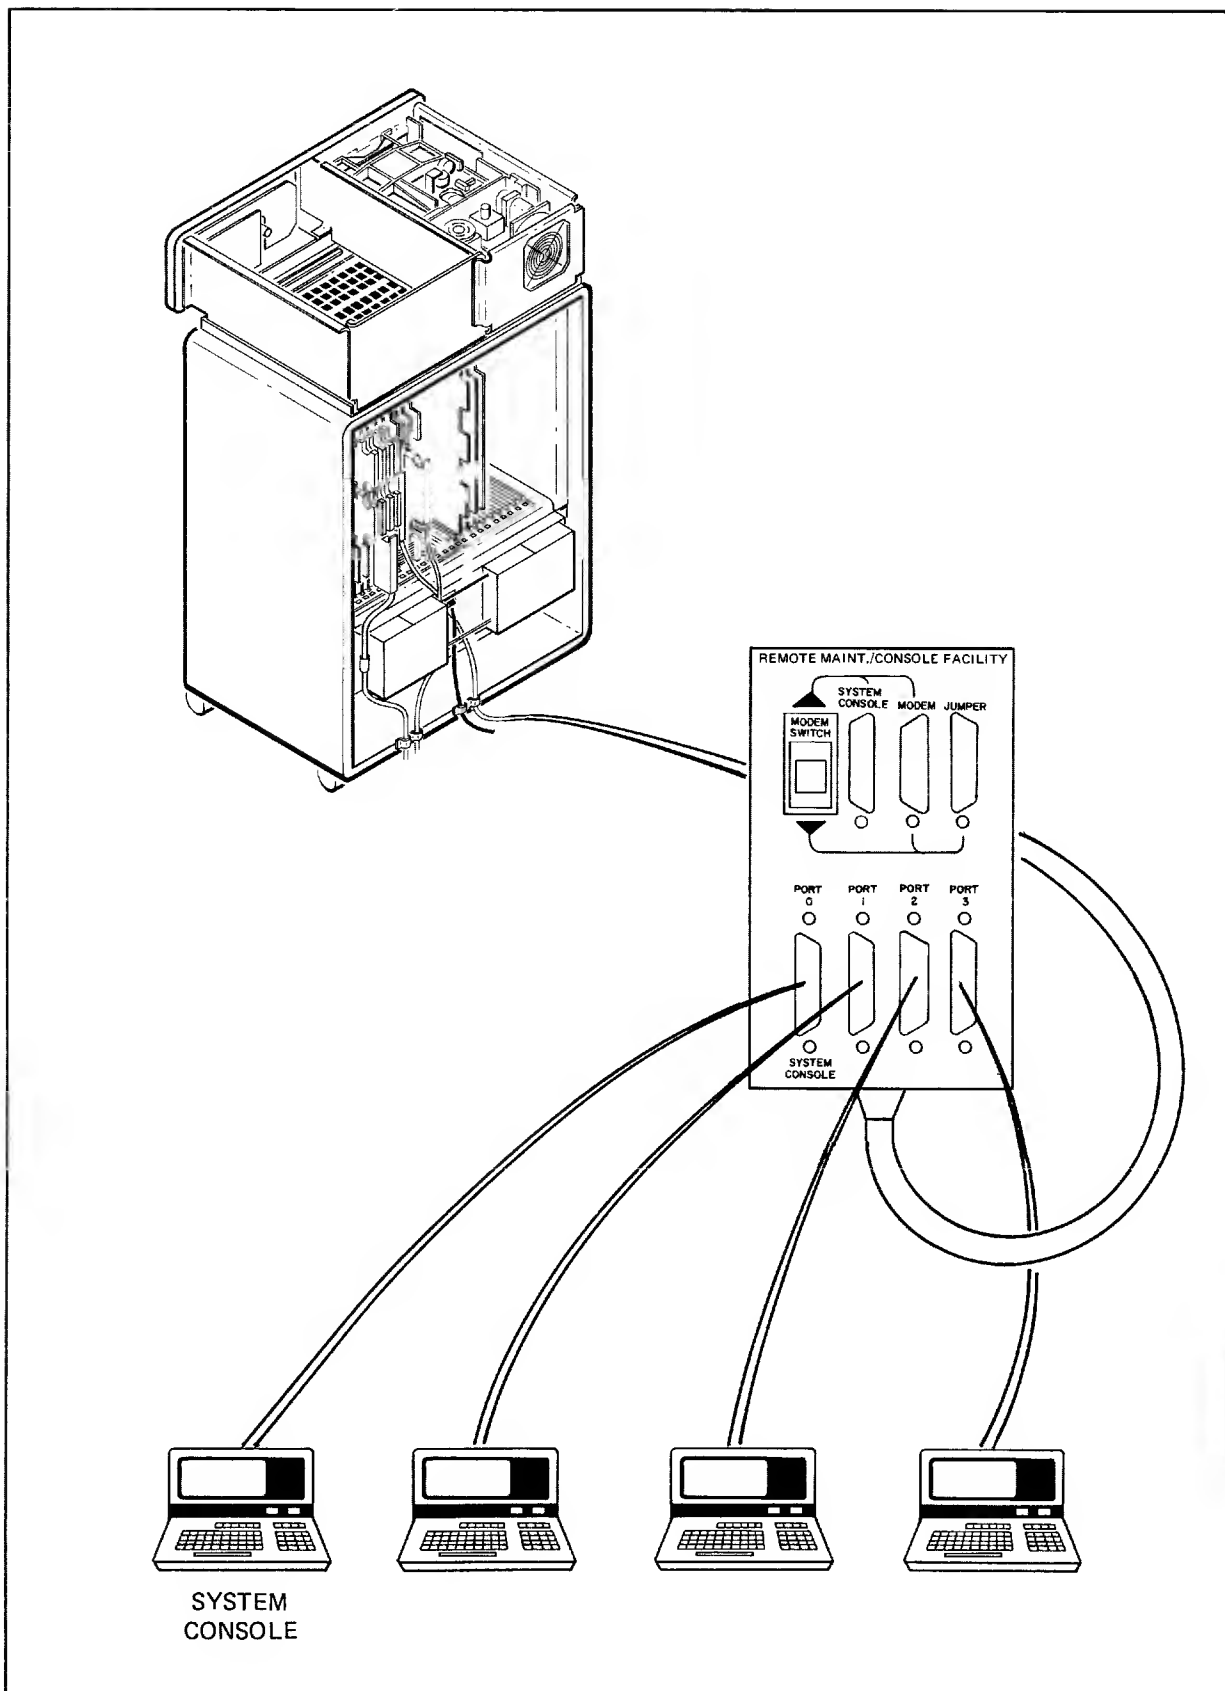

Figure 3-6. Processor Terminal Panel and RS-232 Cable Routing
5. Route the free end of the RS-232 cable from the terminal to the switch box. Connect it to the next available RS-232 terminal panel connector. (See figure 3-6.) If the switch box is full, route cables through terminal quad boxes.